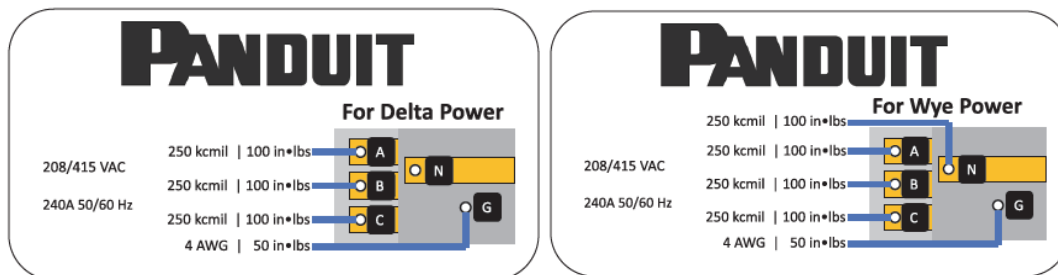

Figure 8 – Connect source feed to busbars
2. Connect wires to busbars using the provided lugs (3 Phases, Neutral, and Ground) inside the PFM (Figure 8).